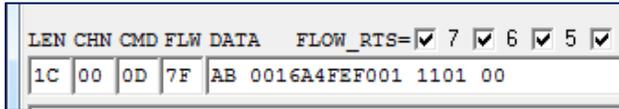

Figure 7: Updated command fields
- To create an HID connection, select **Connection Make** from the drop-down menu on the HID device module. This updates the command fields (Figure 7).